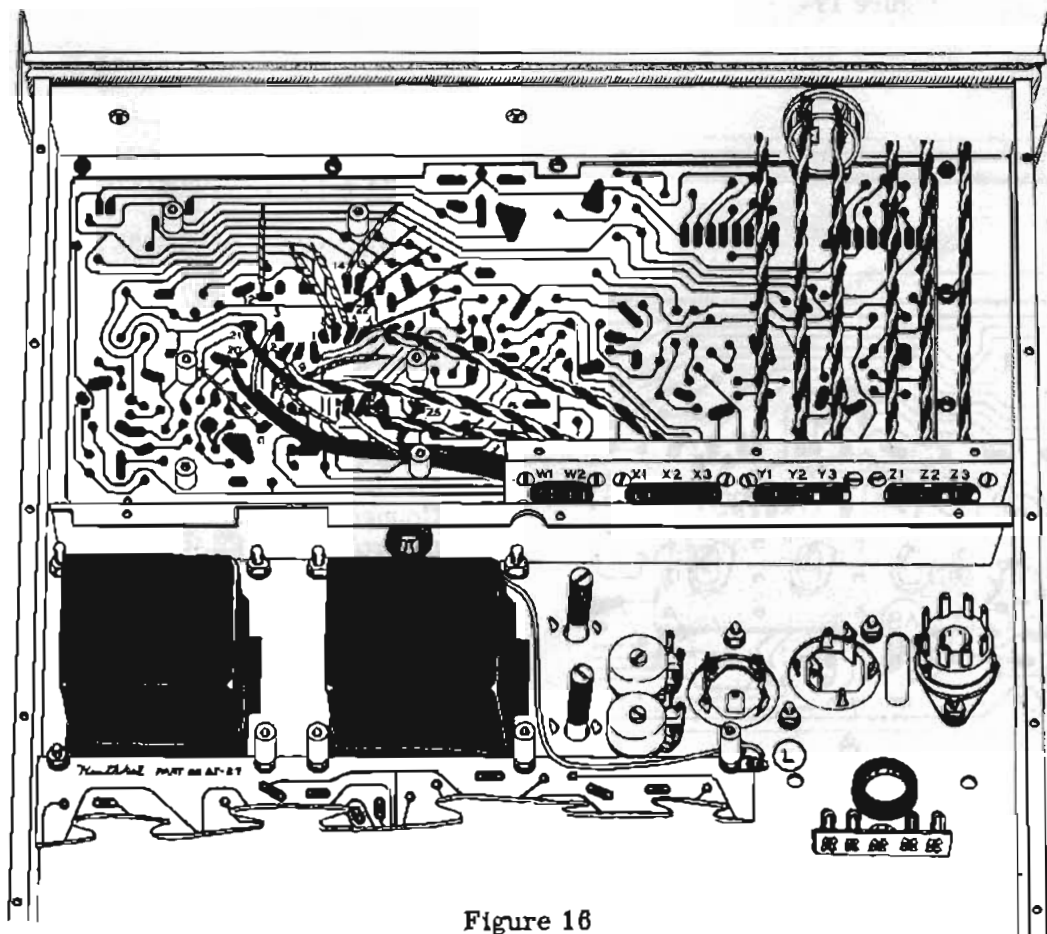

Figure 16
Refer to Figure 16.
- ( ) Identify the twisted pair from phono socket X2. (See Figure 16 ) At the free end, connect the black wire to hole 21 (S-1) and the yellow wire to hole 2 (S-1) on the large circuit board.
- ( ) Install .698" threaded spacers (#255-47) on the three transformer studs and the screw stud holding the solder lug, as shown in Figure 16. Do not remove nuts. Tighten spacers with pliers.